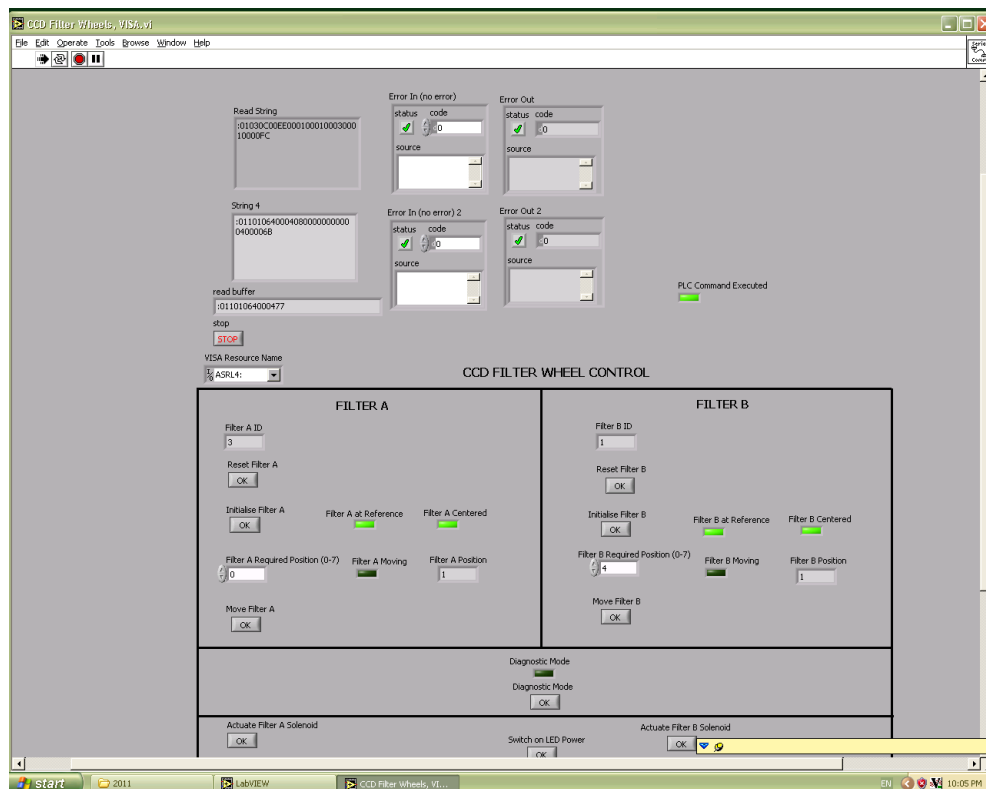

Figure A.5: The filter wheel control panel.
2. A screen as shown in Figure A.5 will now appear.
4. Run the program by clicking on the the arrow button located below the edit tab on the main menu bar, causing it to change to a black “moving” arrow as indicated in Figure A.5.